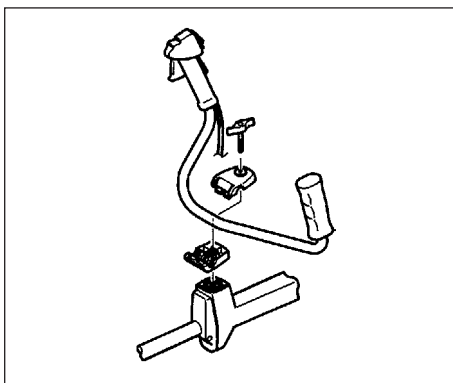

Fig.1-3C
#### NOTE for CG40EYA (TP) (Fig. 1-3C, 3D)